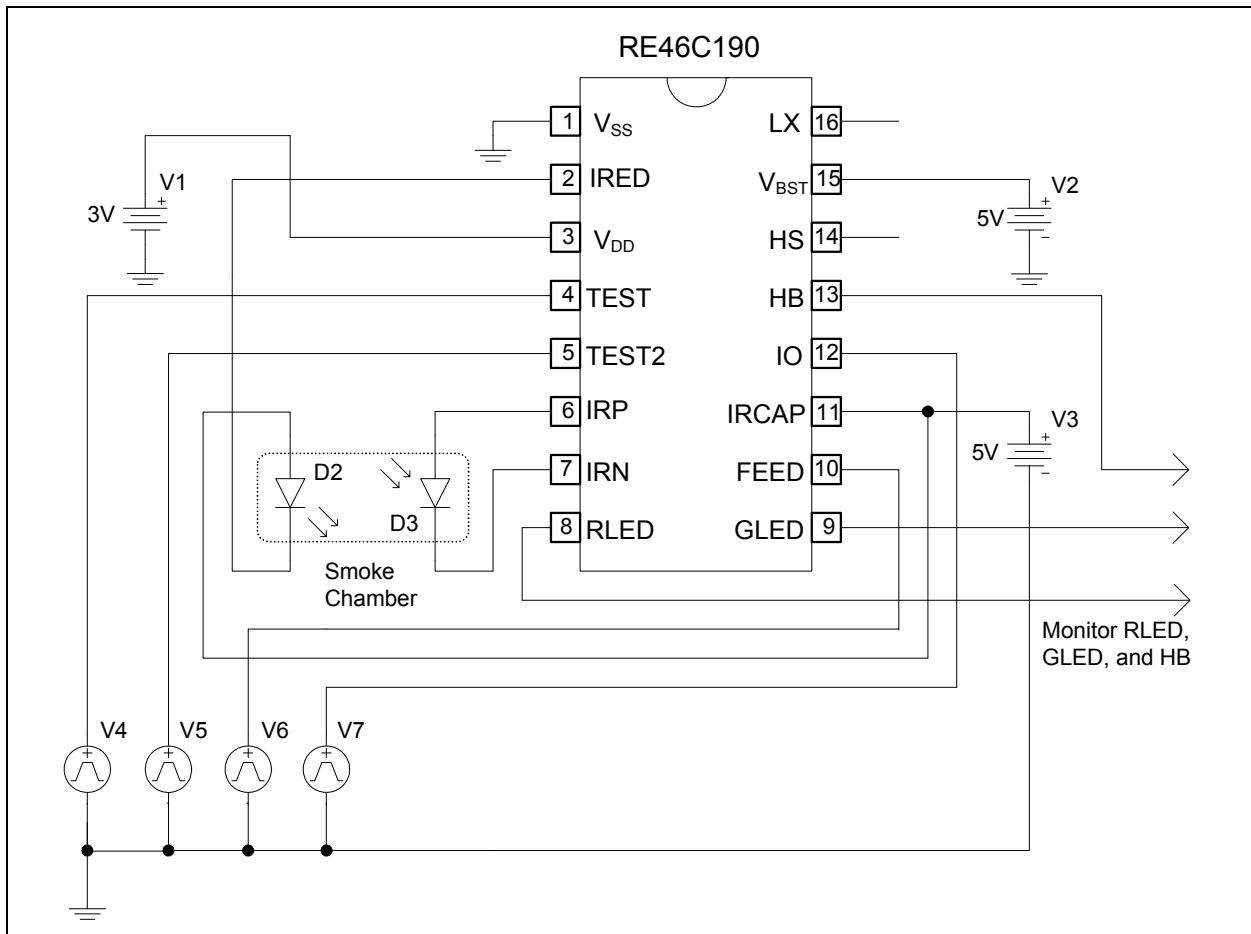

FIGURE 4-1: Nominal Application Circuit for Programming.
1. Power up with bias conditions as shown in Figure 4-1. At power-up TEST = TEST2 = FEED = IO = V_{SS}.
1. Power-up with the bias conditions shown in Figure 4-1.
1. Set up the application as shown in Figure 4-1.